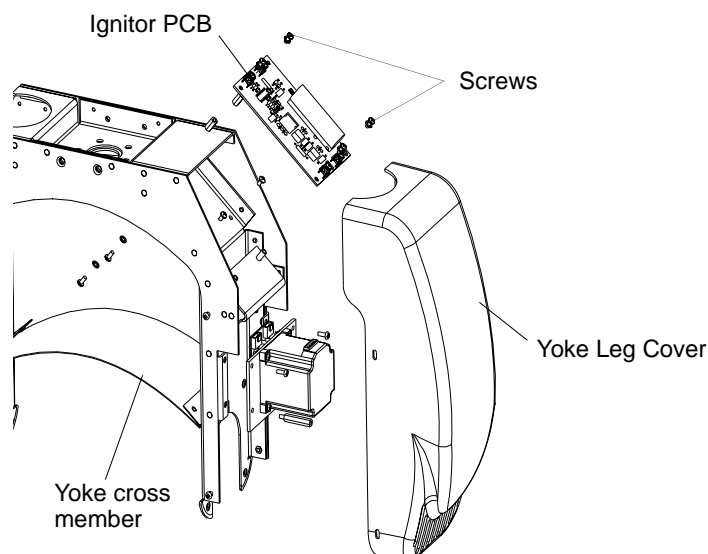

Figure 2-14: Ignitor PCB Replacement
- Step 2. At each yoke leg, remove yoke leg cover by removing four 6-32×5/16" PTB screws. Figure 2-14.